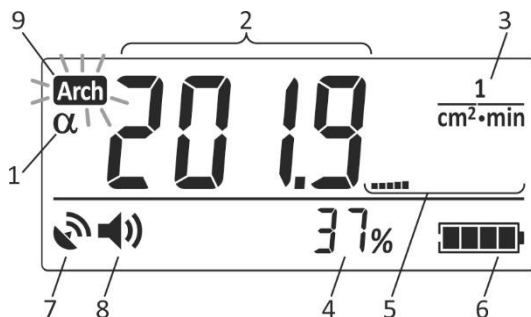

Figure 2.23 – LCD of the dosimeter
2.3.6.7.2.3 The LCD of the dosimeter displays the following in this mode (Figure 2.23):
- “ α ” symbol (1) – radiation type being measured;
- measurement result (2);
- dimension of measurement result (3);
- estimated limits of expected relative statistical deviations (5) of the measurement result (4) given 0.95 confidence probability, hereinafter referred to as the estimated limits of statistical deviations;
- instantaneous value indicator (5).
- battery status symbol (6);
- navigation receiver status symbol (7);
- symbol of gamma quanta, alpha or beta particles sounding status (8);
- sign (9) of critical filling of the dosimeter’s nonvolatile memory, where DE accumulation history is stored (2.3.4 of this OM).